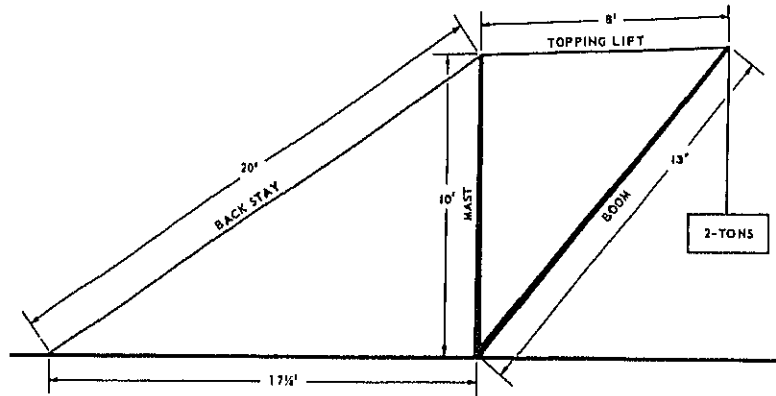

Figure 1C.--Swinging derrick.
- 1-36. To rig the swinging derrick shown in figure 1C above, you need a topping lift that can withstand a tension of
- 1-37. Upon examination of the backstay shown in figure 1C you find that it is frayed near the deck anchoring point. You cut 5 feet off the backstay to eliminate the frayed part and anchor it to the deck at a point approximately 6-1/4 feet nearer the mast. Tension on the backstay is now about equal to the